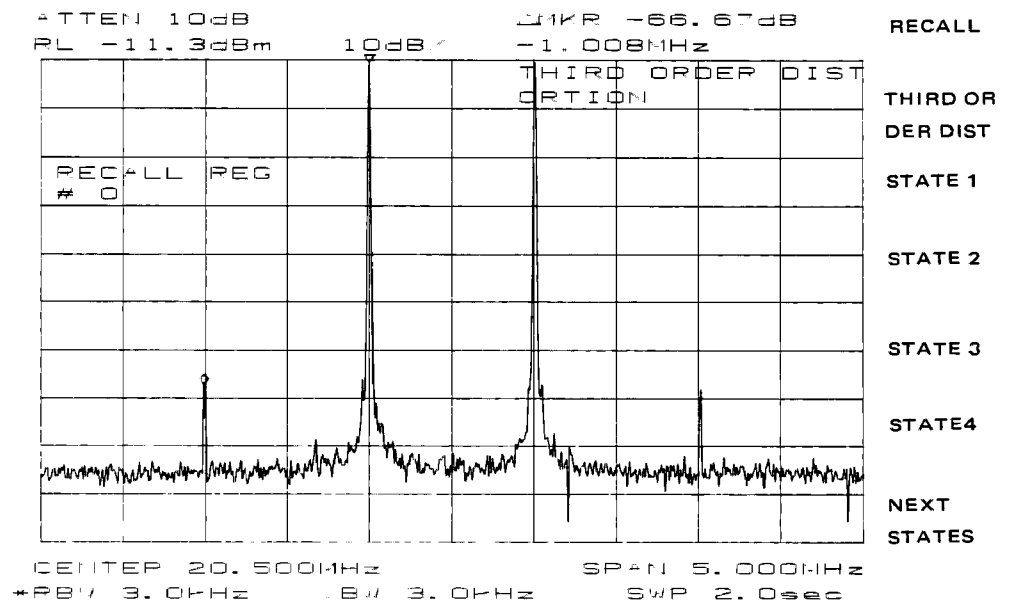

Figure 3-9. **RECALL** Menu
- To save the instrument state, press **SAVE** and **SAVE STATE**; then press a key to enter the instrument state data into whichever register (0 through 9) you select. The first sixteen characters of the title are used to label the register on the **RECALL** menu. To view this menu, press **RECALL** and the key **RECALL STATE** (see Figure 3-9). If a stored state has no title, the menu reads **STATE** followed by the register number chosen.